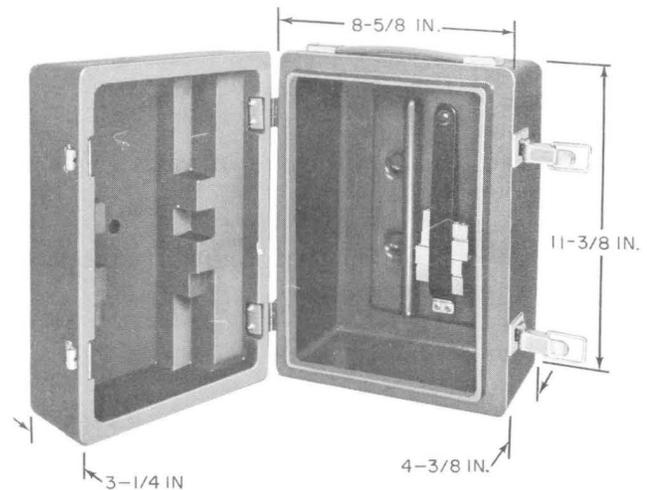

Fig. 11—C Connector Case
11.02 The C Connector Case (Fig. 11) consists of a plastic carrying case with a hinged cover, a carrying handle, and two snap catches. Supports are provided for holding the connector in place. The six adapters furnished with the F Test Connectors are supplied in a plastic bag.